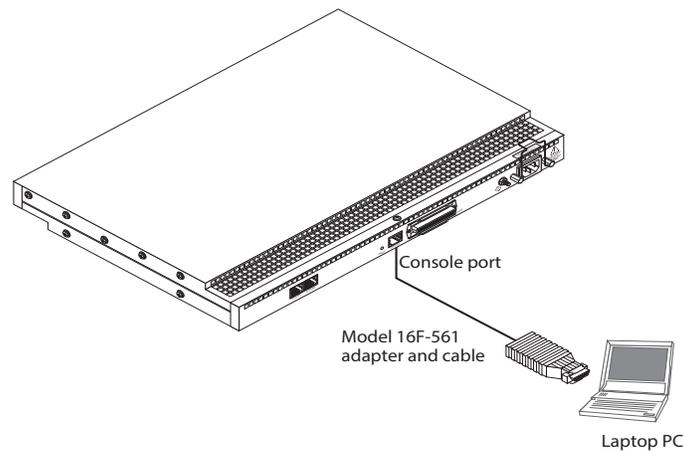

Figure 14. Connecting the SmartNode to your laptop PC
1. **Configuring the desired IP address** (see figure 14). Refer to section “2. Connecting the SmartNode to the network” on page 40 for details.